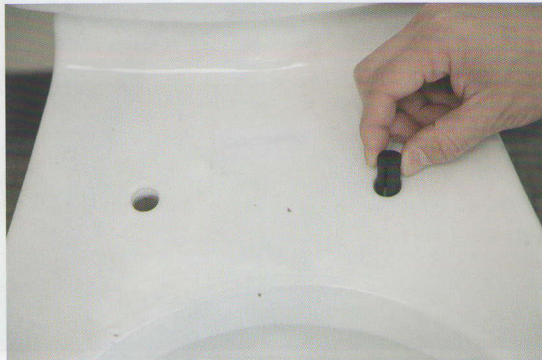

Fig. 4
- 3) Check if the Large Fasteners can fit into the screw holes of your existing toilet bowl (Fig.4)